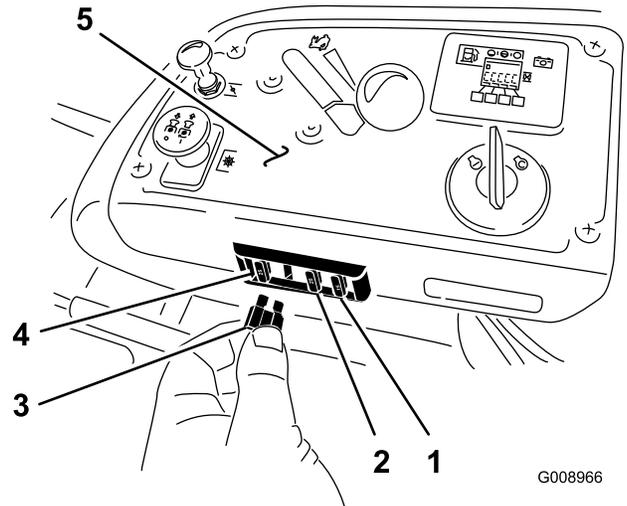

Figure 69
The fuses are located on the console to the right of the seat (Figure 69).
2. Install a new fuse (Figure 69).